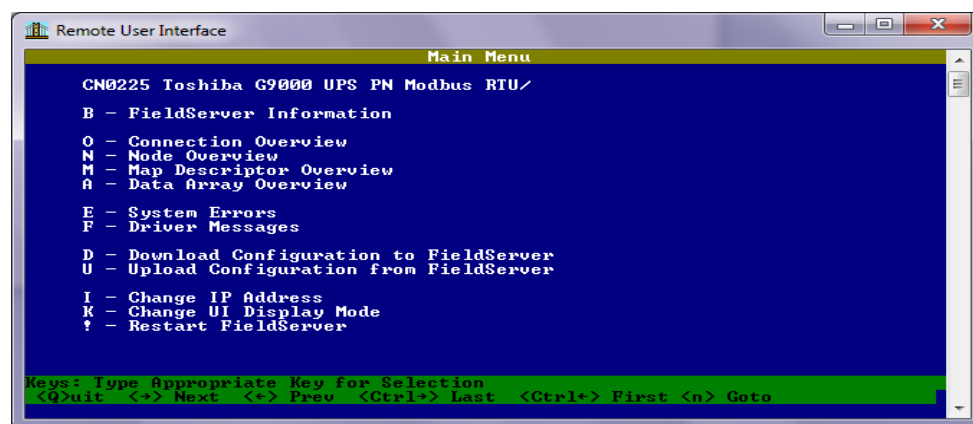

Figure 2 – Main Menu
2. In the main menu of the Remote User Interface screen, type “d” to go to “Download configuration to FieldServer” menu (See Figure 2).
9. To verify that the protocol configuration file was downloaded successfully, go to the main menu and look at the top of the main menu to see the UPS model and the protocol (see Figure 2).